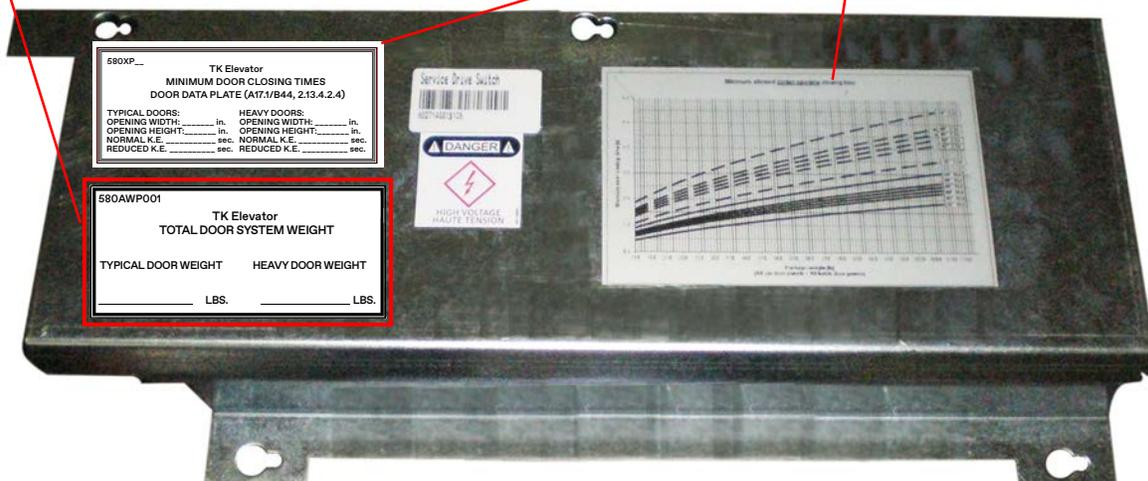

Figure 34 - Door Labels
2. Add the weight of the car doors and the weight of the hoistway doors, and enter this number as the typical door weight on the Total Door System Weight label (580AWP001). See Figure 34.
3. Install the Total Door System Weight label (580AWP001) per Figure 34.